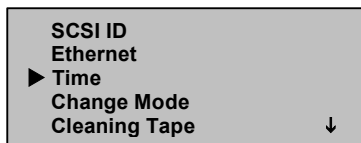

Figure 31: Select Time
3. On the Configuration submenu, scroll to Time. (See Figure 31.)